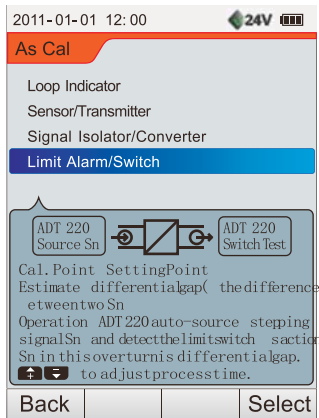

Figure 9.39
1. In the main interface (Figure 9.1) calibrator set: switch capture / current output (custom: 4mA ~ 6mA, linear), press  key entry As Cal tool list, as shown in Figure 9.39.